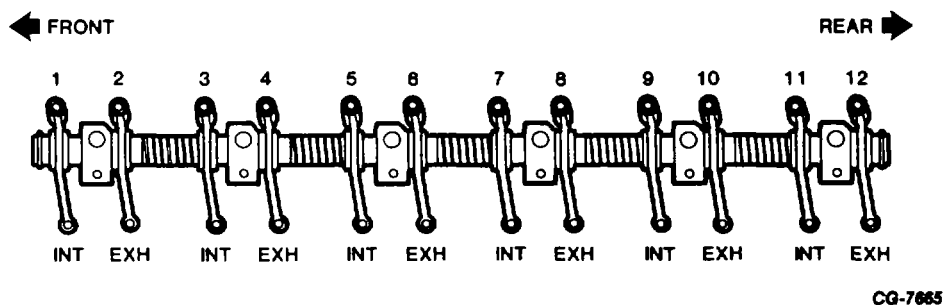

Figure 31. Valve Arrangement
3. Six valves are adjusted when No. 1 piston is at TDC (compression) and remaining six are adjusted when No. 6 piston is at TDC (compression). As depicted in Figure 31 odd numbered valves are intake valves; and even numbered valves are exhaust valves.